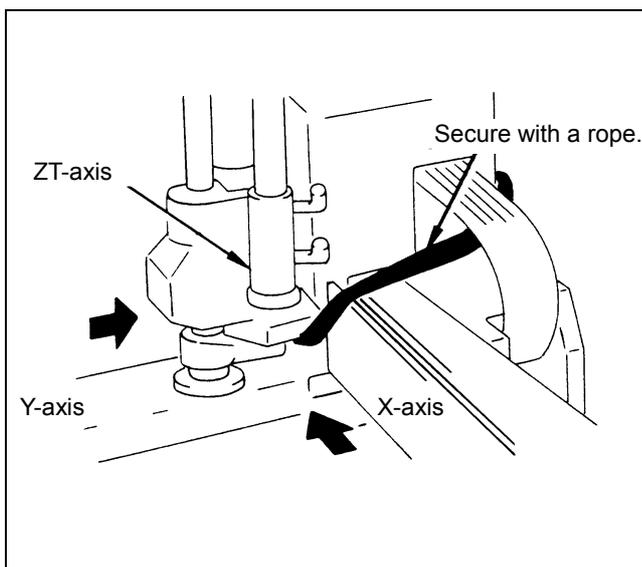

Figure 2-2 Securing the ZT-Axis
- (1) Remove the motor and encoder cables from the robot unit.
- (2) Press the ZT-axis against the mechanical end by moving it in the direction of the arrows as shown in Figure 2-2.
- (3) Secure the ZT-axis with a rope or belt.
- (4) While supporting the end of the X-axis to prevent the robot unit from overturning, remove the Y-axis mounting bolts to release the robot unit from the mount.
- (5) Have at least three workers lift up the robot unit and transport it to the installation place.